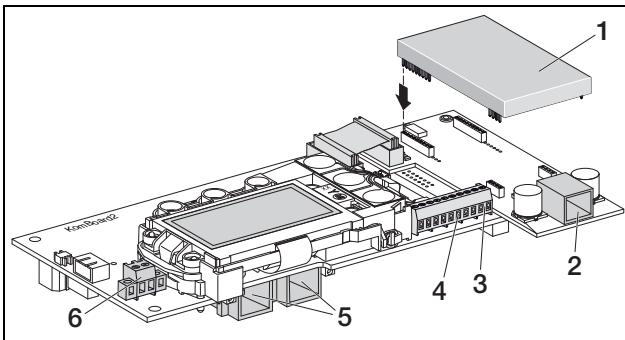

Fig. 28: Communication interfaces
- Insert the plug of the Ethernet/crossover cable into one of the corresponding sockets (5 in figure 28).
- Insert the plug of the telephone cable into the corresponding socket (2 figure 28).